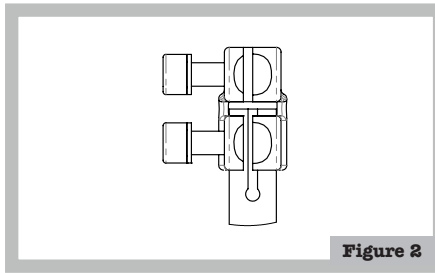

Figure 2
2. Install the left and right lower clamps onto the rack. The larger diameter end of the clamp fits over the bottom of the rack – grease the inside bore of each clamp, and use a mallet to tap each clamp onto the rack. Clamps should be arranged so bolt heads face away from the wheel when installed. Slots of the clamps should align with the slots in the rack (Figure 2).